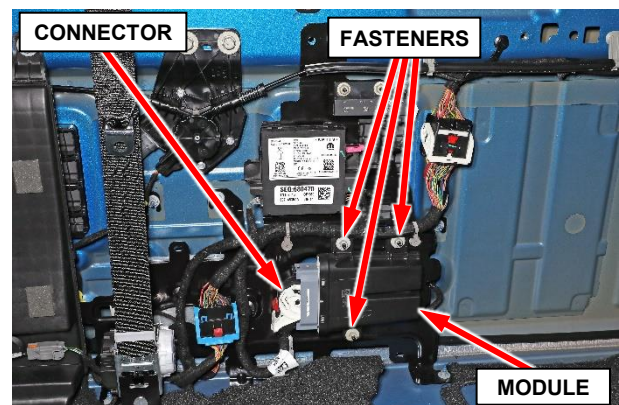

Figure 4 – Trailer Tow Module
6. Disconnect the wire harness connector from the trailer tow module (Figure 4).
7. Remove the three fastener nuts securing the trailer tow module to the rear cab back panel (Figure 4).
8. Remove the trailer tow module from the vehicle (Figure 4).
11. Install the **NEW** trailer tow module to the vehicle and tighten the three fastener nuts securely (Figure 4).
12. Connect the wire harness connector to the trailer tow module (Figure 4).